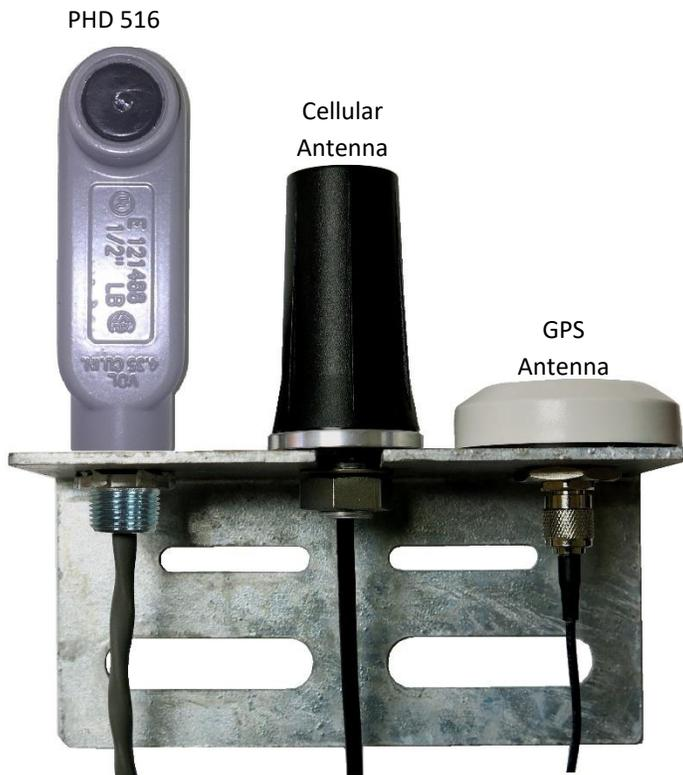

Figure 2-1 – Antenna Mounting Bracket with PHD 516, Cellular and GPS Antennas
The photodiode, also referred to as PHD 516, is shown in Figure 2-1 (page 33) and mounting and outline dimensions are shown in Figure 2-12 (page 47). The photodiode uses a female 1/2" NPT for mounting. Use the following guidelines to mount the photodiode:
A Cellular antenna is required with any of the optional cellular modems provided with the system. The supplied antenna mounting bracket accommodates bulkhead mount style antenna as shown in Figure 2-1 (page 33). Wiring diagrams for different configurations (optional Modem, optional Wi-Fi, optional Modem + Wi-Fi) are shown in Figures 2-34 to 2-36 (page 77 – 79). The antenna connects directly to the modem as shown in Figure 2-34 (page 77). Follow the steps outlined below to install the antenna.
Choose a location for mounting the cellular antenna that will provide optimal reception. The included mounting bracket can simultaneously accommodate a Vanguard Photodiode, Cellular Antenna, and GPS Antenna as shown in Figure 2-1 (page 33).
2. The cellular antenna **must be mounted at the center of the bracket** as shown in Figures 2-1 and 2-2 (page 33). Follow the location recommendations noted in Photodiode Mounting (page 31) and GPS Antenna if it is installed along with the photodiode and/or GPS antenna.
The GPS antenna, shown in Figure 2-1 (page 33), is required when the optional GPS board is used. Follow the method below to install the GPS antenna.
1. For best reception and synchronization, choose a location for mounting the GPS antenna with an unobstructed view of the sky. The included mounting bracket can simultaneously accommodate a Vanguard Photodiode, Cellular Antenna, and GPS Antenna (see Figure 2-1, page 33).